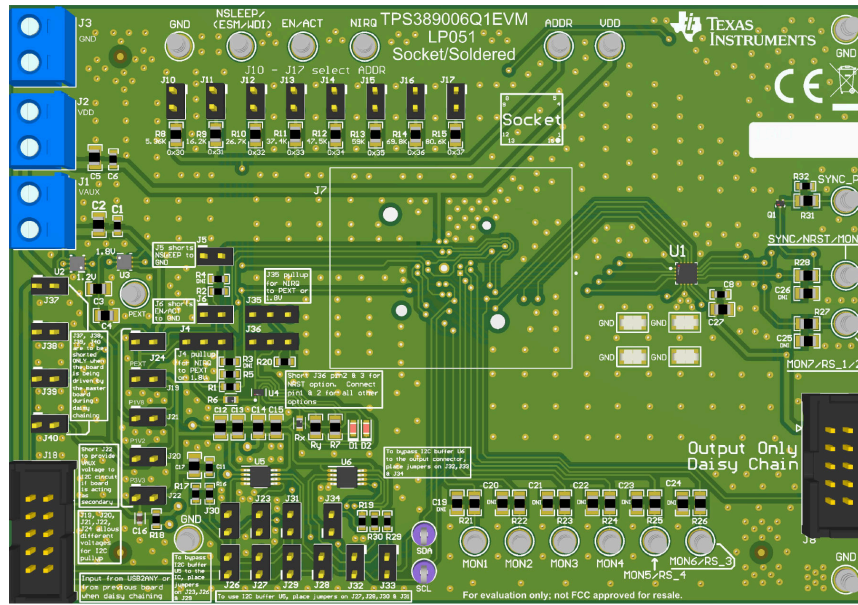

Figure 3-1. TPS389006Q1EVM Jumper Locations
Table 3-2 lists the jumpers on the TPS389006Q1EVM. As ordered, the EVM has thirty-five (35) jumpers installed. Figure 3-1 is provided as visual aid.